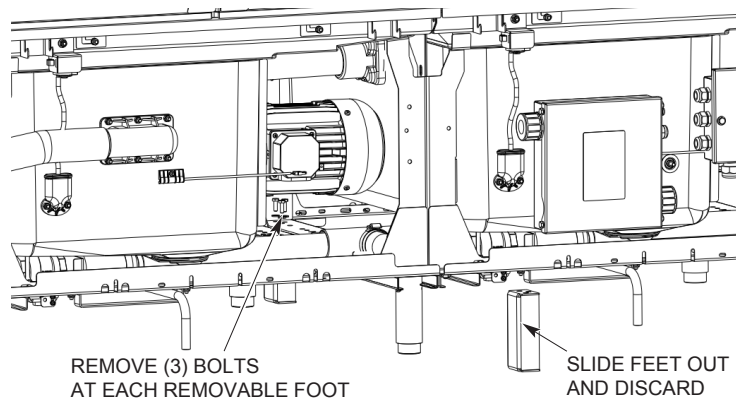

Fig. 8
After the sections are securely bolted together, remove the (3) bolts securing each removable foot to the cross member and slide the feet out from the end of the cross member (Fig. 8). The removable feet and hardware can then be discarded.